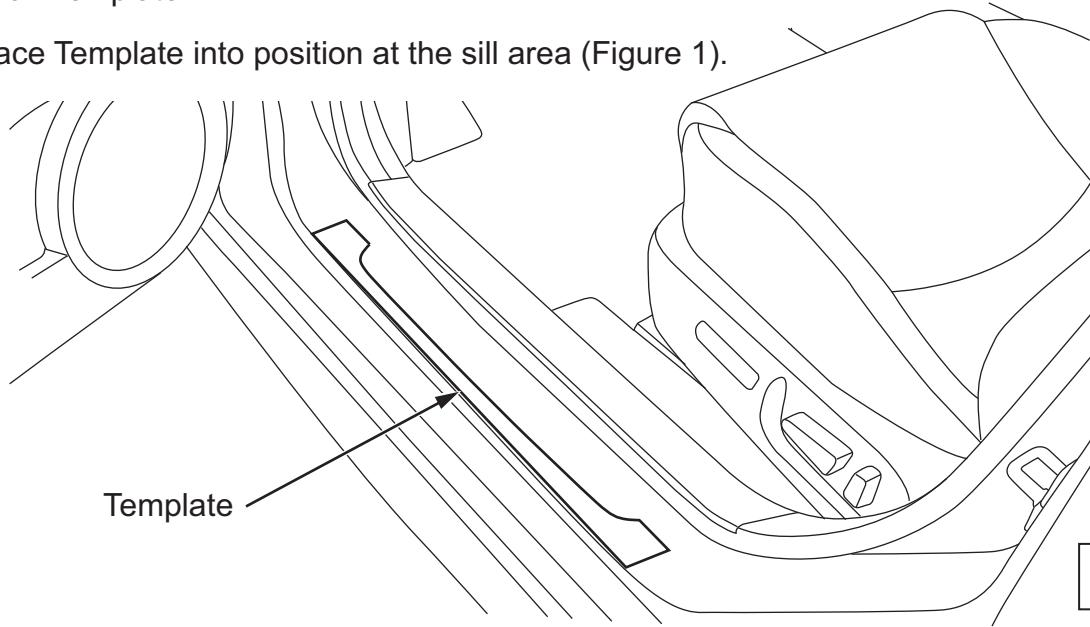

Figure 1
- A. Place Template into position at the sill area (Figure 1).
- Place Template into position at the rear sill area (Figure 1).